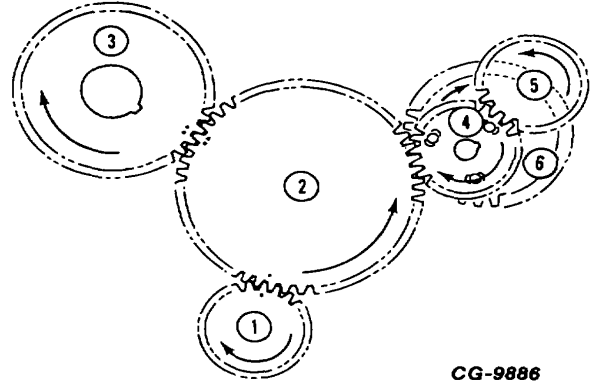

Figure 12. - Gear Train Timing Marks
5. Crank engine until timing marks on crankshaft gear, camshaft gear and Idler gear are in line as shown in Fig. 12.